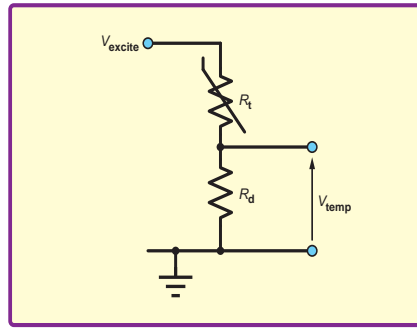

Fig.4. Thermistor potential divider circuit
To measure a resistance, some current must be passed through the resistance. A simple way to achieve this is to use a potential divider, as shown in Fig.4 – an excitation
With any resistance-based temperature measurement (thermistor or RTD) some care is needed with the amount of excitation current passed through the sensor to make the measurement. Any current (I) flowing in a resistance (R) dissipates power (equal to I^2R) and potentially causes a change in temperature of the device – an effect known as self-heating. In the context of Fig.4 and 5, a low excitation voltage will reduce this effect but also reduce the signal level. In some thermistor applications self-heating is used deliberately to sense the thermal conductivity of the environment of the sensor – for example, if a liquid is present it will remove heat from the sensor to a much greater extent than air, so the liquid can be detected by a temperature change. In direct temperature measurement self-heating is of course a problem and will cause inaccuracies in the measurement if it occurs.